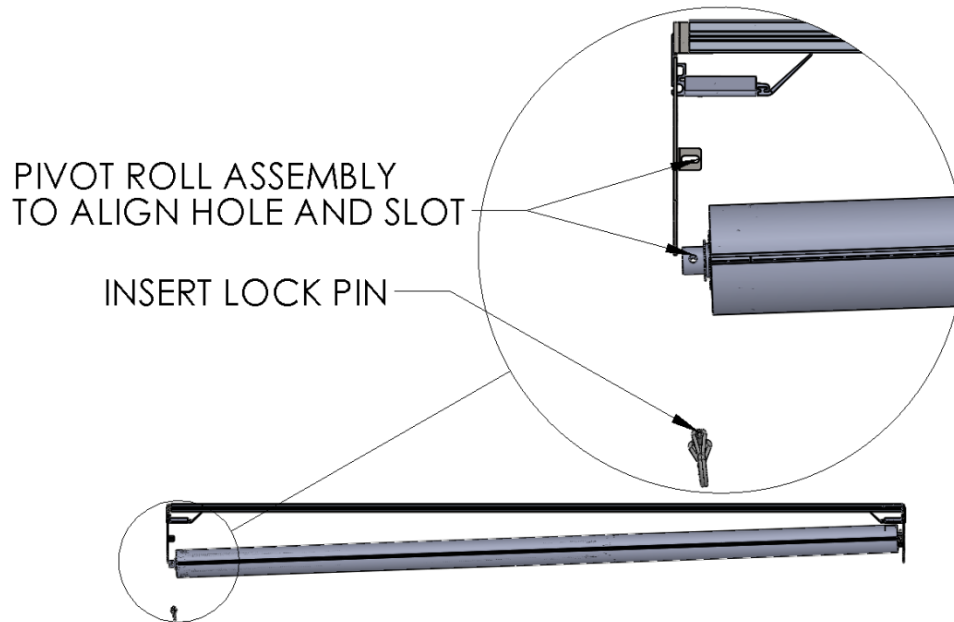

Figure 5 INSTALL IDLER SIDE OF ROLL ASSEMBLY
5. Pivot the Idle side of the Roll Assembly into the opening. Align the hole in the Idle Shaft with the slot in the Header Bracket, then install Locking Pin. (Figure 5 INSTALL IDLER SIDE OF ROLL ASSEMBLY)